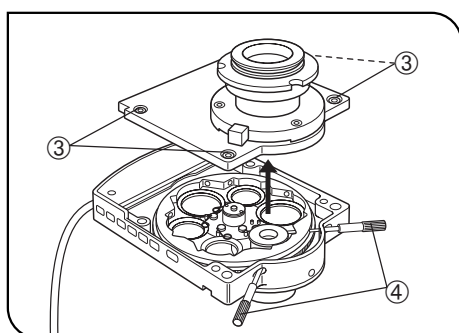

Fig. 37
With the IX2-LWUCDA2 motorized condenser, remove the four clamping screws ③ using the Allen screwdriver and remove the top cover. (Fig. 37)